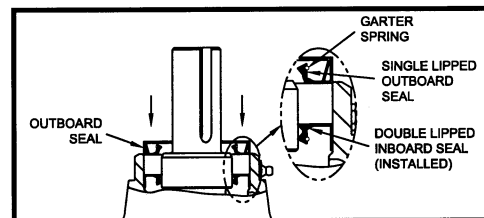

Figure 6.2.3.5 Orientation of Outboard Seal for Installation
11. Place the ring on the seal. **Reference Figure 6.2.3.6 (next page).**